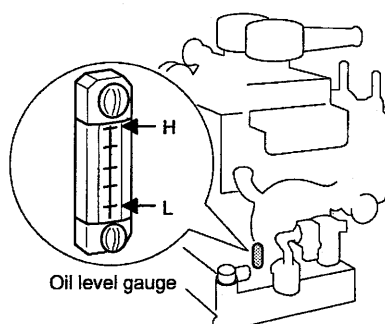

Fig. 16
- (3) Fill the oil up to the level H of the oil level gauge mounted on the lower part of the crank case. (Fig. 16)